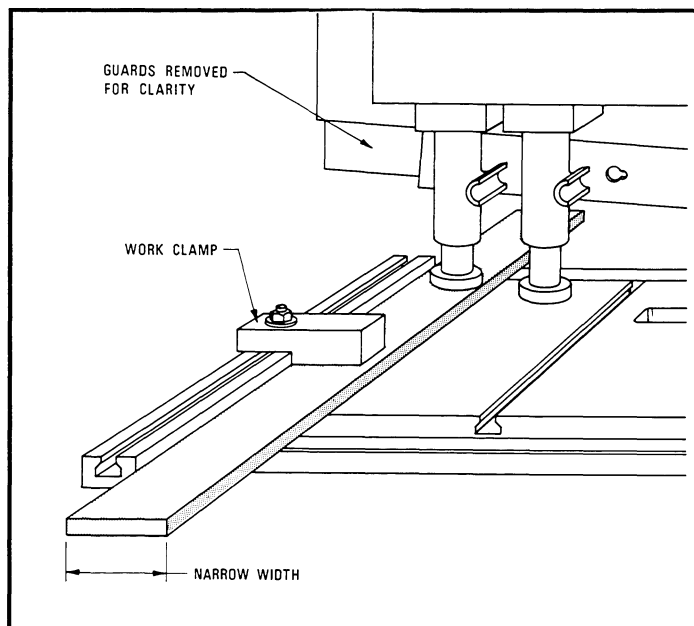

FIGURE 5-2 - Manual clamping device
8. If the material being sheared is not long enough to clamp with two holddowns, and is of maximum capacity for the shear, it may be necessary to provide a manual clamping device to prevent possible "tip-up". See Figure 5-2 for a suggested type of clamp.